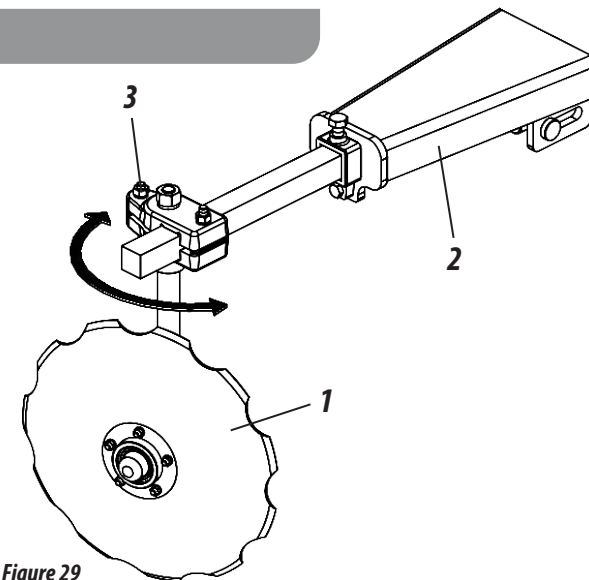

Figure 29
**ADJUSTMENT OF LINE MARKER DISCS (FIGURE 29)**